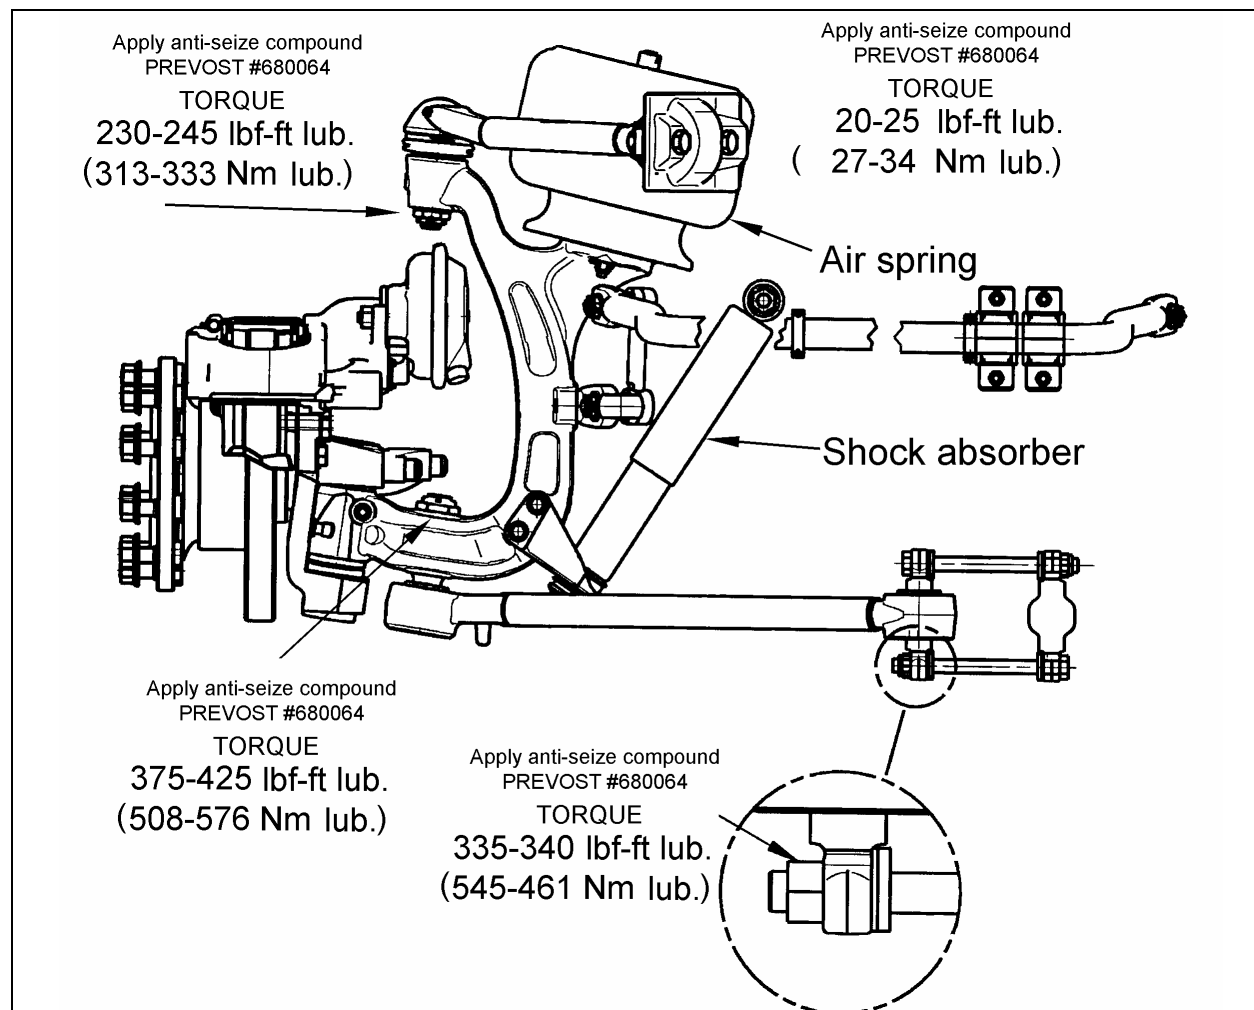

FIGURE 32: AIR SPRING AND SHOCK ABSORBER
- Torque replaced nuts as per figure 32.
5. Install the shock absorber as shown in figure 32 with the mounting stud protruding through the hole in the mounting bracket and the shock absorber eyes over the mounting pins. Install the outer washer.